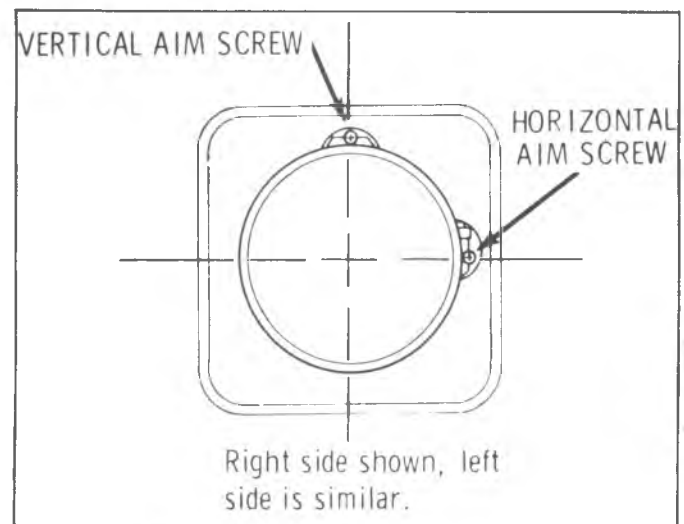

Fig. 1—Headlamp Aiming Screws
11. Turn horizontal adjusting screw of headlamp (fig. 1) until split image of target line appears in sight